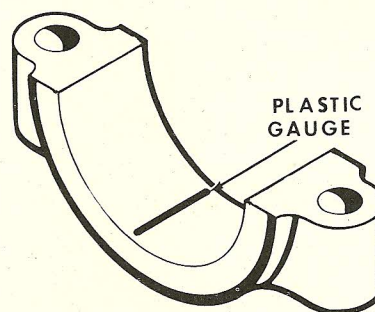

Figure M-27
3. To check the rod bearing clearance use plastic gauge. Place a piece of plastic gauge across the full width of the rod cap, refer to Figure M-27. Tighten bearing cap to specified torque.